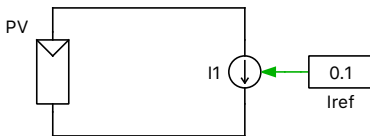

Figure 4: Customize the subsystem mask using drawing commands
- 4 You may then need to adjust the size of the subsystem so the corners meet the endpoints of the line you have just drawn. To do this, you first have to unprotect the subsystem by right-clicking and choosing **Subsystem + Unprotect**. The final PV subsystem symbol should look like that shown in Fig. 4.